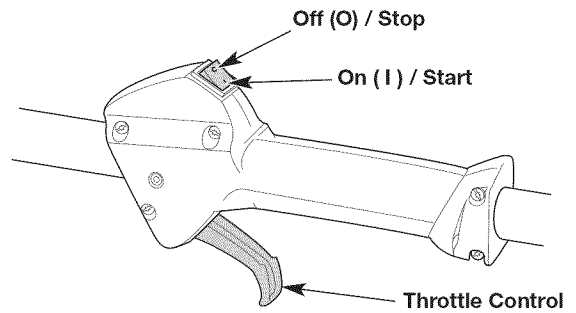
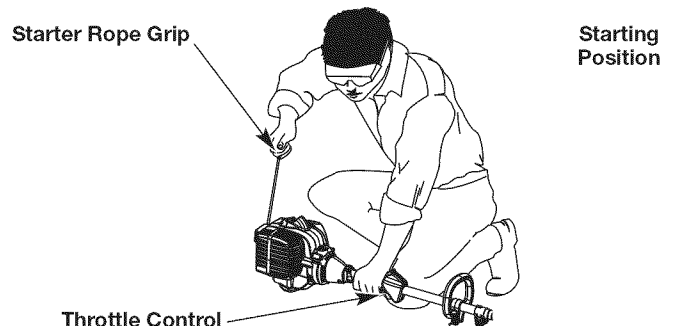

Fig. 8
Fig. 11
**WARNING:** Avoid accidentally starting the unit. To avoid serious injury, the operator and the unit must be in a stable position when pulling the starter rope (Fig. 11).
**NOTE:** There is no need to turn the unit on. The On/Off switch is in the ON (I) position at all times (Fig. 8).
5. Crouch in the starting position (Fig. 11).
6. Squeeze the throttle control (Fig. 8) and pull the starter rope with a controlled and steady motion **5 times** (Fig. 11).
2. Press and hold the On/Off switch in the OFF (O) position until the engine comes to a complete stop (Fig. 8).
**NOTE:** There is no need to turn the unit on. The On/Off switch is in the ON ( I ) position at all times (Fig. 8).
7. Squeeze and hold the throttle control (Fig. 8). Run the Speed Start™ accessory for 2 seconds.